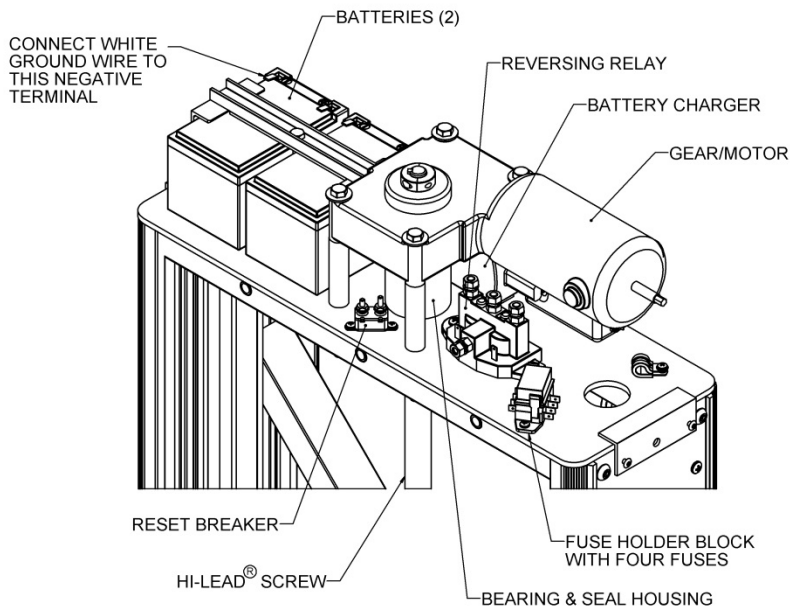

FIG. 4.9
5. The VPL is shipped with the white wire which connects to the negative battery terminal disconnected. Without standing on the platform, locate and reconnect the wire (there should only be one open terminal on the batteries) (FIG. 4.9). The VPL should not operate when the wire is connected to the battery as long as the keyed switch is the Power “OFF” position. However, in case of unexpected operation, be sure you are positioned to prevent injury in case the VPL operates accidentally when the wire is connected.